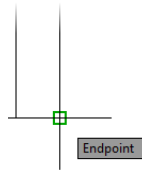

FIGURE 4.47: Specifying the start point for the ARC command
4. Activate the Endpoint osnap (type **END↵**), and pick the right endpoint of the upper jamb line, as shown in Figure 4.47.